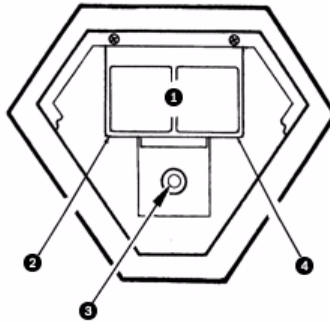

Figure 3.2 Layout of Modules
Figure 3.2 below shows the interior layout of the EX36(N) camera assembly after the faceplate has been removed. Smaller details such as wiring and terminal blocks are omitted for clarity. Refer to the specific module sections for these details.